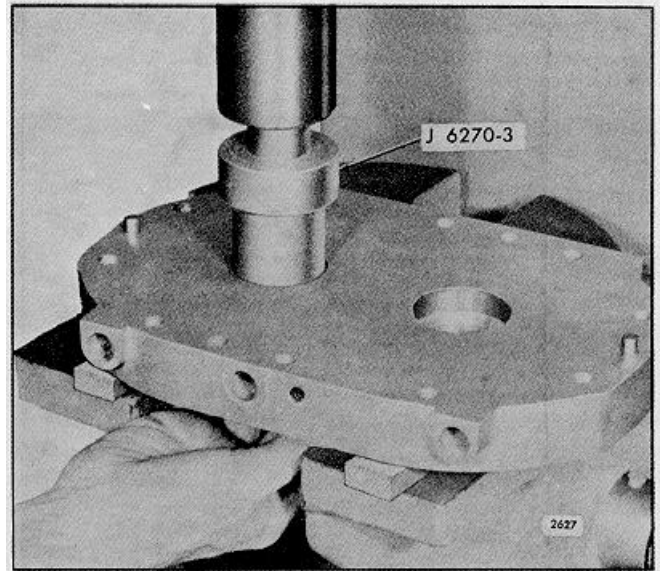

FIG. 10 - Removing Oil Seal (or Oil Seal Ring Collar) and Bearing from End Plate
into the bearing, with the opposite end of the remover under the ram of the press (Fig. 10). Then press the bearing and oil seal out of the end plate. Discard the oil seal.
- h. Refer to Fig. 10 and support the outer face of the blower end plate on wood blocks on the bed of an arbor press.
- i. Place the long end of the oil seal remover and installer J 6270-3 down through the oil seal ring collar and into the bearing, with the opposite end of the remover under the ram of the press (Fig. 10). Then press the bearing and oil seal ring collar out of the end plate.